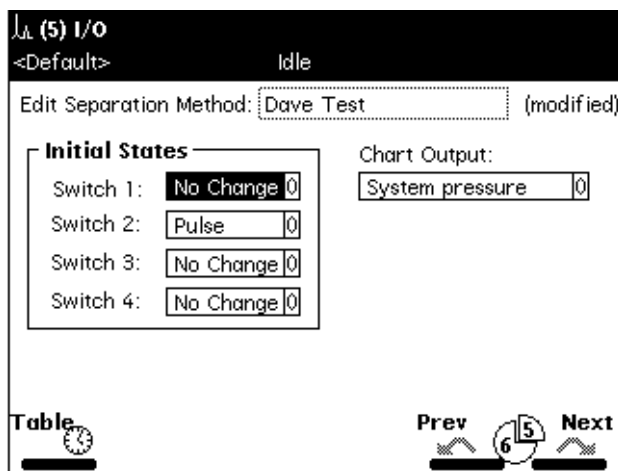

Figure 6-8 I/O Screen
1. Press the **Next** or **Prev** screen key to display the I/O screen (Figure 6-8).